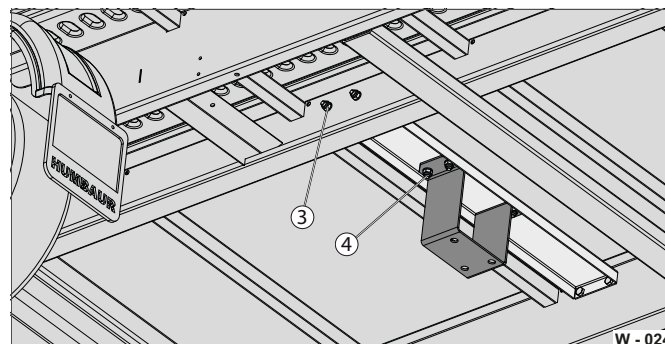

Fig. 24 Attaching a spare wheel
► Check the screw connections (Fig. 24 /3) for the spare wheel holder (Fig. 24 /4) to ensure they are tight.